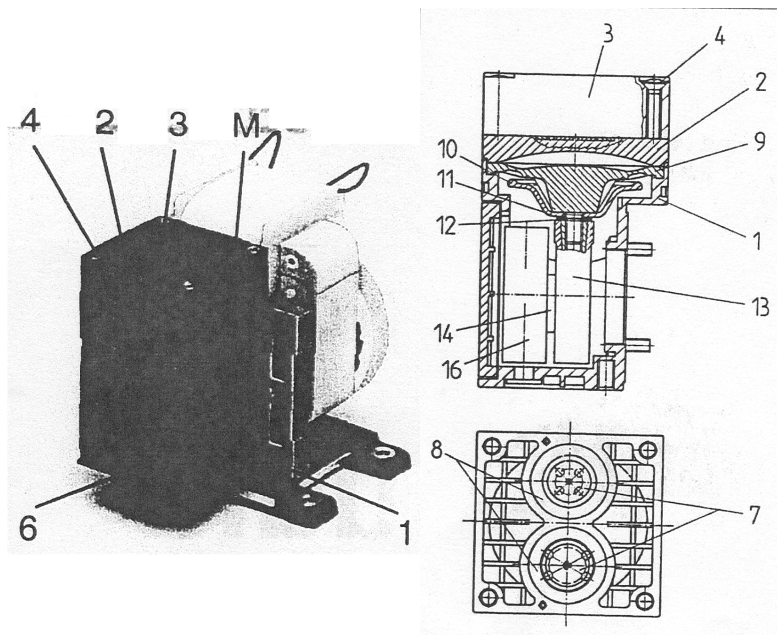

Figure 16: Pump Head Removal
4. Remove the pump head by (Figure 16: Pump Head Removal):
- a. Making a mark (M) on the head plate (3), intermediate plate (2), and housing (1) with a felt-tip pen.
- b. Undoing the 4 screws (4) in the head plate and lifting the head plate, with the intermediate plate, off the pump housing.
- DC motors (no cooling fan):* Removing the cover (6) from the pump housing (1) by inserting a screwdriver into the slots on the sides, and prying the cover off (with care the adhesive gasket between cover and housing may be reused).
- No fan:* Reference is made to turning or holding the cooling fan, the necessary operations must be carried out by turning or holding the counterweight (16).
5. Change the diaphragm by (see Figure 16: Pump Head Removal):
- a. Turning the fan to bring the structured diaphragm (9) to top dead center.
- c. Taking the disc spring (12), diaphragm spacer(s) (11), and diaphragm support (10) off the threaded portion of the diaphragm and retaining them.
- f. Turning the fan until the connecting rod (13) is at top dead center.
6. Change the valve plates by (see Figure 16: Pump Head Removal):
- a. Separating the head plate (3) from the intermediate plate (2).
- b. Removing the valve plates (7) and sealing rings (8) from the intermediate plate.
7. Refit the pump heads by (see Figure 16: Pump Head Removal):
- b. Placing the intermediate plate (2), with valve plates (7), sealing rings (8), and head plate (3) on the housing, in the position indicated by the (M).
- d. Gently tightening the screws (4), evenly and diagonally.
- g. Tightening the screws (4).
- h. *For DC versions (no cooling fan):* Reattaching the cover (6) to housing (1).